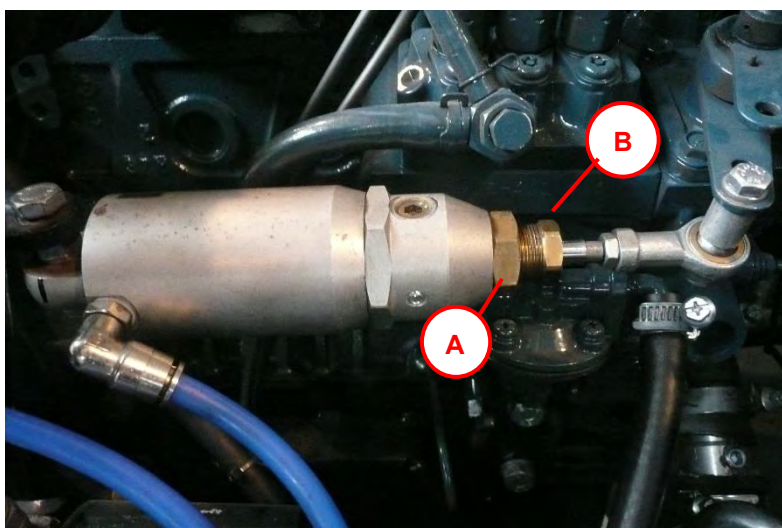

Figure 11.1-1 Adjusting idle speed motor
- 5) Loosen the 23mm lock nut (Letter A in Figure 11.1-1)
- 6) To increase the idle speed of the engine, tighten the 18mm nut (Letter B in Figure 11.1-1)
- 7) To reduce the idle speed of the engine, loosen the 18-mm nut (Letter B in Figure 11.1-1)
- 11) Tighten the 23 mm lock nut when the appropriate RPM is obtained (Letter A in Figure 11.1-1)